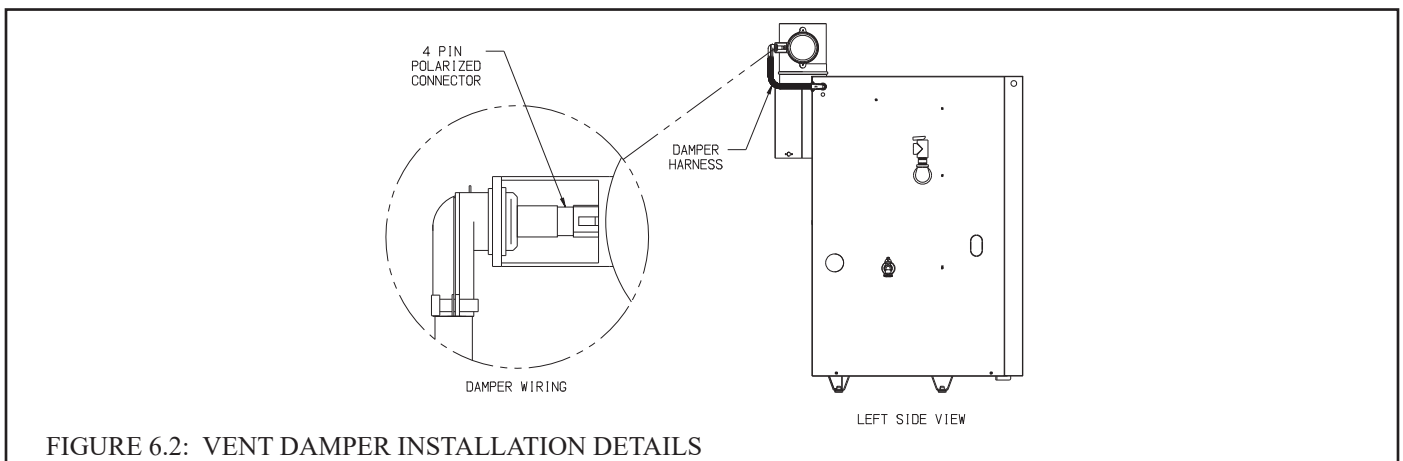

FIGURE 6.2: VENT DAMPER INSTALLATION DETAILS
- 10) The vertical section of vent pipe coming off the boiler should be as tall as possible, while still maintaining the proper clearance from the horizontal vent connector to combustibles and the proper pitch called for in (9) above.
- 14) Installation of the vent damper supplied with this boiler is mandatory. Install vent damper (see Figure 6.2) as follows: